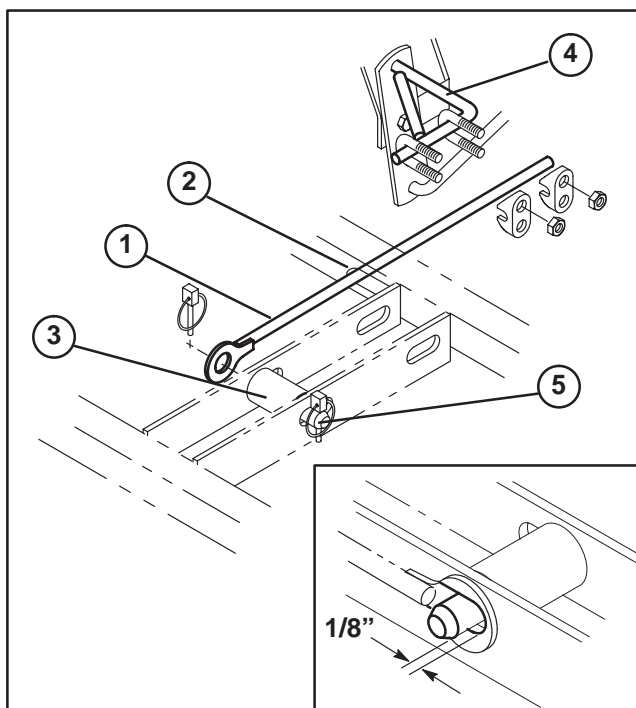

Figure 5
14. Loosely secure front dump link to rear dump link with (2) clamps, positioning as shown in figure 5.
15. With curved latches holding tailgate securely closed and the bed lift cylinders fully retracted, in the down position, adjust the dump link assembly length until there is 1/8" gap between the front of the cylinder pin and the front of the cylinder rod slot (Fig. 5, inset).